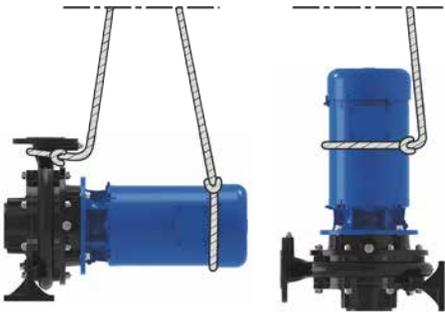

Fig. 51 Lifting points on the pump
Attach the ropes, lashes or multi-point slings according to (Fig. 51) and attach to the crane's hook.
2. Place the container under the return pipe (Fig. 51/2).